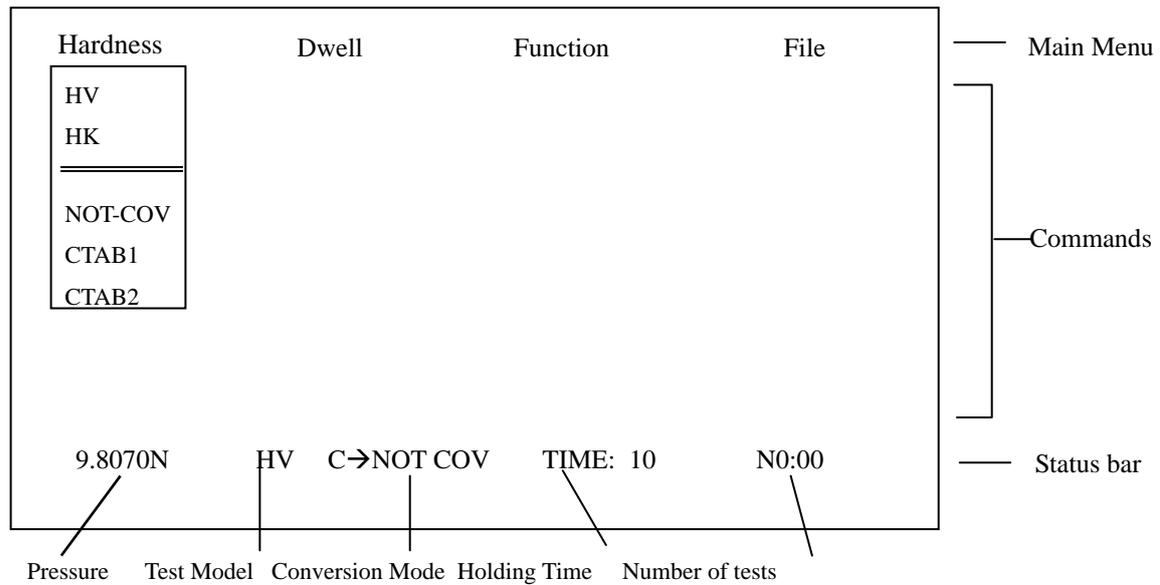

Figure 5
Turn on the machine and the indicator on the left side of the printer lights up. After several beeps, the screen appears like Figure 5. The Main Screen adopts the most common menu format and interactive dialogue window format, and is thus very user-friendly.
Normally, the motor is load relieved when the tester is turned off and screen shows as Figure 5 when the tester is turned on again. If the buzz goes off and stays on as soon as the machine is turned on, then the motor is not yet loaded relieved. Wait until it is load relieved and the buzz will stop. Only then can operation be conducted on the tester.
For example, Figure 5 shows that the current pressure is 9.8070N. If we want to change the pressure to 4.9035N, just turn the handwheel to 4.9035N and the display will change accordingly on the status bar.
The third item is conversion mode and C→NOT COV (as shown in Figure 5) means no conversion.
The fourth item is pressure holding time which is now 10 seconds as shown in Figure 5.
- 4.2 Turn on the power switch and the screen lights. Turn testing pressure change handwheel to select the required testing pressure. Make sure that the loaded pressure is the same as that shown on the screen. The wrong display will result in the wrong calculation. Gently turn the handwheel to avoid impact damage. (See Figure 5 for reference display).
on the status bar on the screen (See Figure 5 for reference display).